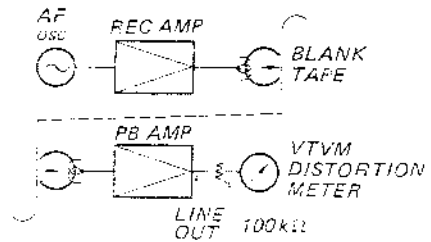

Fig. 5-2-11 Test setup for the Procedure 8, 9, 10, 11 & 13
9. Overall Frequency Response Measurement (See Fig. 5-2-11.)
(See Fig. 5-2-11 on page 14.)